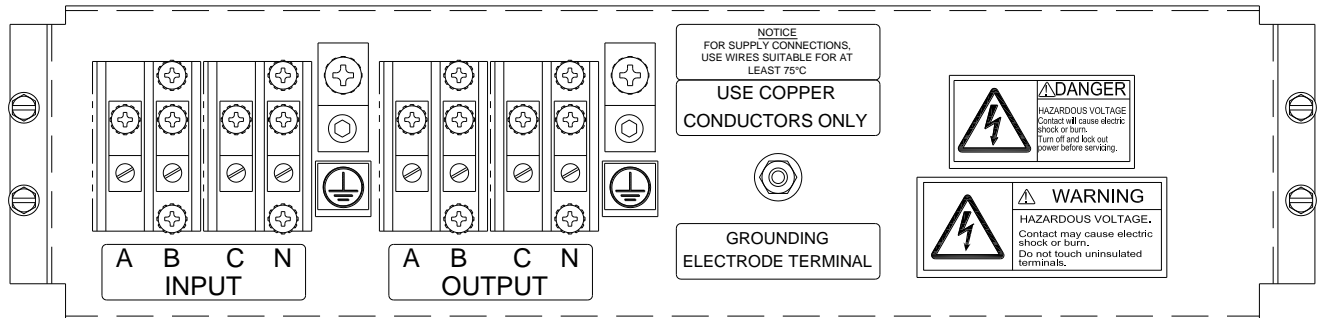

Figure 8 - UPS Terminal Blocks
2. Connect the input wires to the proper terminals shown in Figure 8. Insure proper phase rotation (A-B-C).
3. Connect the output wires to the proper terminals shown in Figure 8.